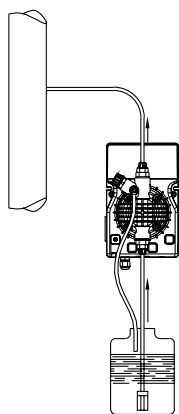
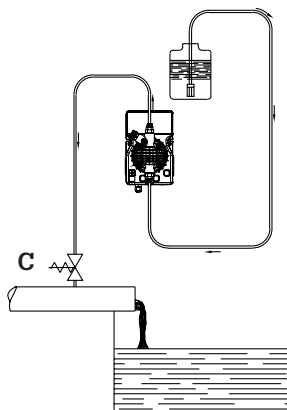

Fig. 5
Fig. 6
- c. - Locate the pump as shown in fig. 5 bearing in mind that it may be installed either below or above the level of the liquid to be dosed, though the level difference should not exceed 2 meters. When the process plant in which the pump is installed is operating at atmospheric pressure (no back pressure) and the chemical tank is situated above the plant (Fig. 6), the condition of the injection valve should be checked at regular intervals, because excessive wear and tear could cause additive to drip into the plant even when the pump is shut down. If the problem persist, install a properly calibrate **counter-pressure valve (C)** between injection point and the valve. In the case of liquids that generate aggressive vapours, do not install the pump above the storage tank unless the latter is hermetically sealed.